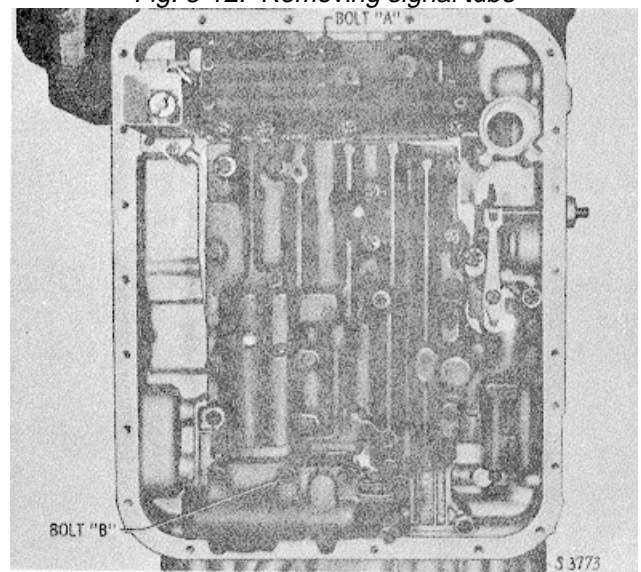

Fig. 5-13. Valve body assembly
(2) Remove bolts A and B (fig. 5-13). Install two 1/4-20 guide bolts 39 (fig. 4-3) into positions A and B.